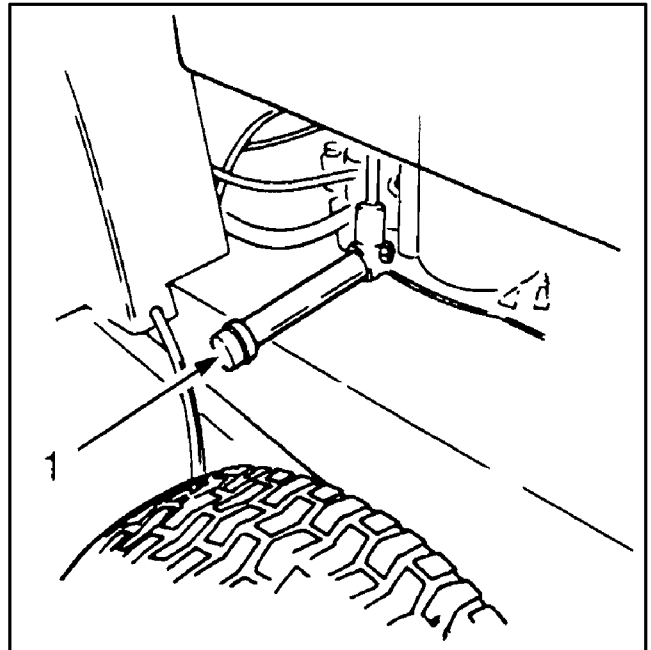

Figure 14
- B. Turn the engine off and place the drain pan below the drain plug (Fig.14). Remove the drain plug, and allow all oil to flow into the drain pan. Reinstall the drain plug after oil stops flowing.